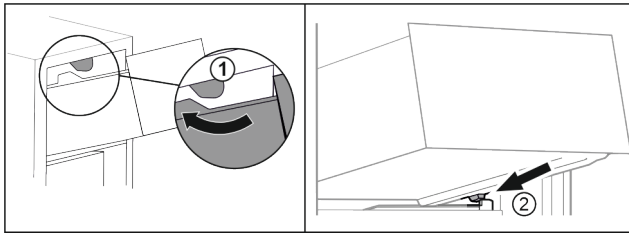

Fig. 98
- ▶ Guide drawer around the upper stoppers. Fig. 98 (1)
- ▶ Place drawer at an angle behind the lower stoppers onto moulded rib. Fig. 98 (2)